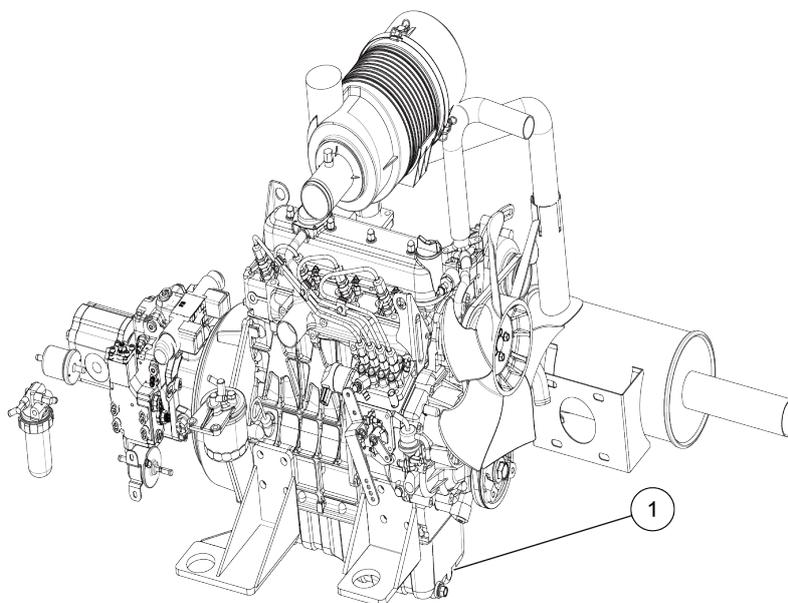

Figure 6-12 Engine oil plug
Step 3: Open the engine hood, unscrew the oil plug (1), and place a container under the engine to prevent oil splashing. After draining the old oil, tighten the oil plug, as shown in Figure 6-12;